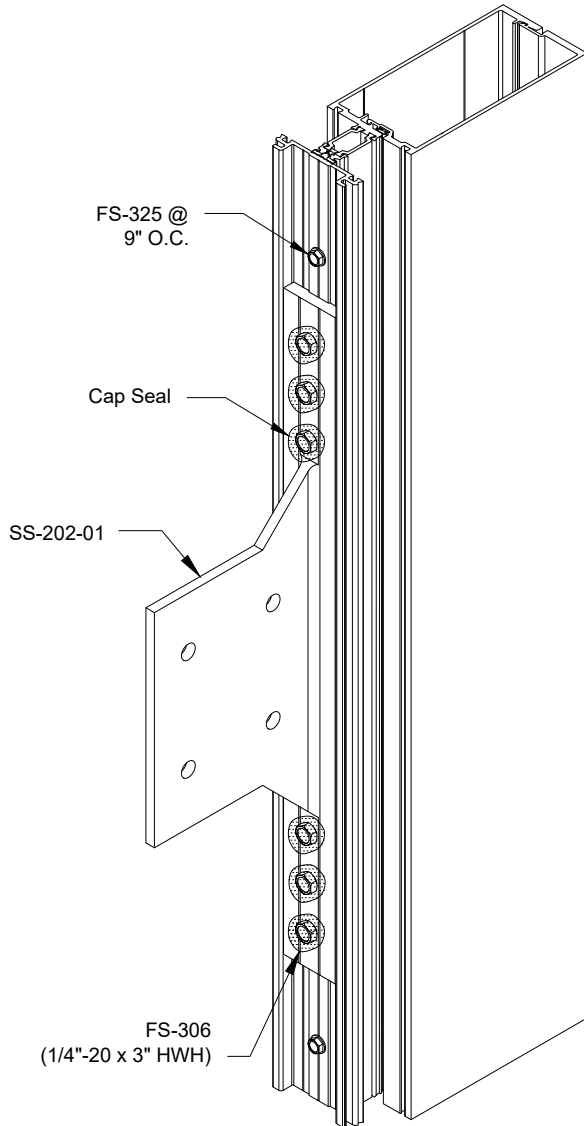

Figure 45
- 6) Cap seal fasteners at sunshade anchor. See FIGURE 45.